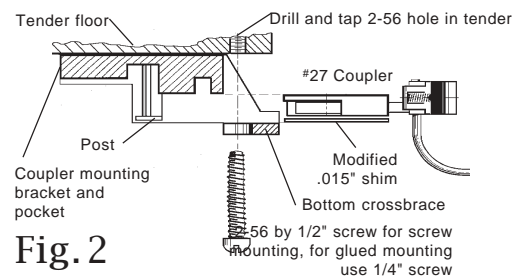

Fig. 2
6. Option 1: Use a #50 drill to drill a hole in the floor just in front of the bottom coupler crossbrace. Slip the drill bit between the crosspiece and the inside platform and drill down to the floor. Hold it against the inside of the half circle of the crosspiece. Drill through the floor and the piece just under the floor. Tap the hole 2-56 through both pieces. See Fig. 2. This is the simplest and most versatile conversion. See Fig.3.